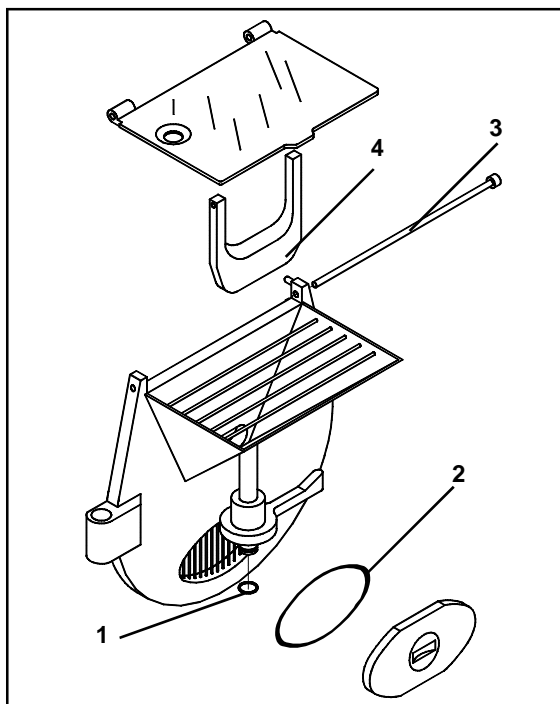

Figure 15
- Lift the ice cream door and remove OR (Ref. 1126 - Fig. 15) from the ice cream door and withdraw it which will also release the lever.
- To perform cleaning, also remove the ice cream gate OR (Ref. 2 - Fig. 15).
- Remove the horizontal hinge pin (Ref. 3 - Fig. 15) then remove the cover.
- The cover is provided with a small bulkhead (Ref.4 - Fig.15), which prevents ice cream from going up into the fill chute which must be disassembled to be cleaned.